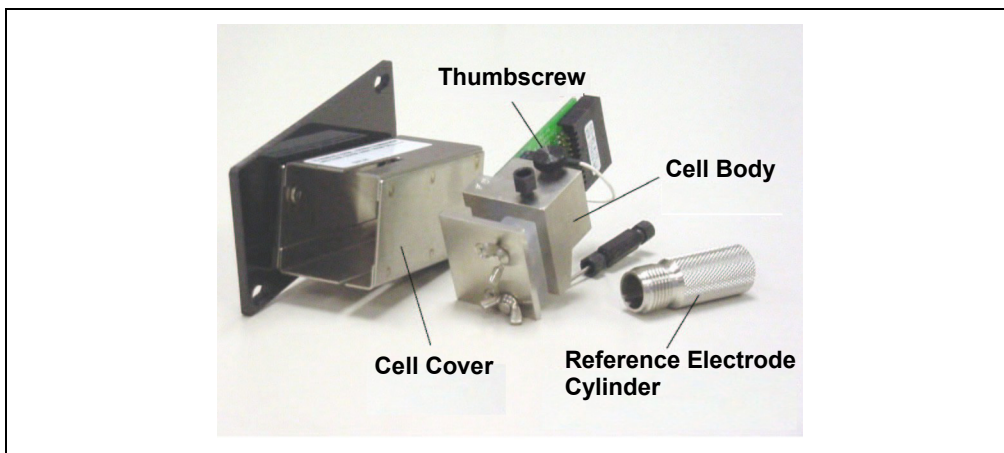

Figure B-4. Removing the Amperometry Cell Cover
1. Loosen the cell cover thumbscrew and remove the cover (see Figure B-4). Unscrew the reference electrode cylinder and remove it from the cell body.
NOTE Figure B-4 shows an example of a mounting plate for a chromatography or thermal compartment. Mounting hardware varies, depending on where the cell is to be installed.